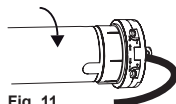

Fig. 11
- B. A right-handed installation. I look into the box and the limit switch of the motor is on the right (siehe Abb. 11)